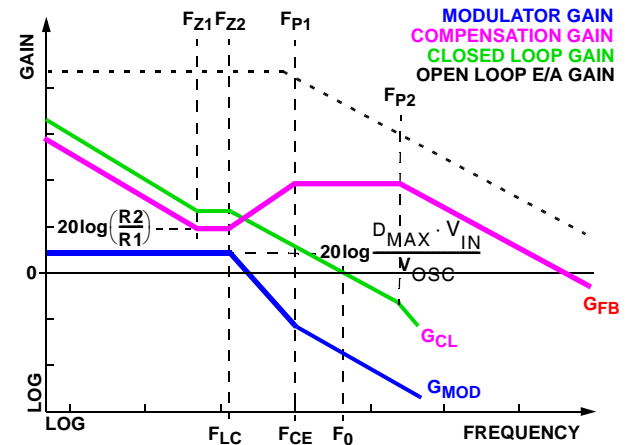

FIGURE 8. ASYMPTOTIC BODE PLOT OF CONVERTER GAIN
Figure 8 shows an asymptotic plot of the DC/DC converter's gain vs. frequency. The actual Modulator Gain has a high gain peak dependent on the quality factor (Q) of the output filter, which is not shown. Using the above guidelines should yield a compensation gain similar to the curve plotted. The open loop error amplifier gain bounds the compensation gain. Check the compensation gain at F_{P2} against the capabilities of the error amplifier. The closed loop gain, G_{CL} , is constructed on the log-log graph of Figure 8 by adding the modulator gain, G_{MOD} (in dB), to the feedback compensation gain, G_{FB} (in dB). This is equivalent to multiplying the modulator transfer function and the compensation transfer function and then plotting the resulting gain.